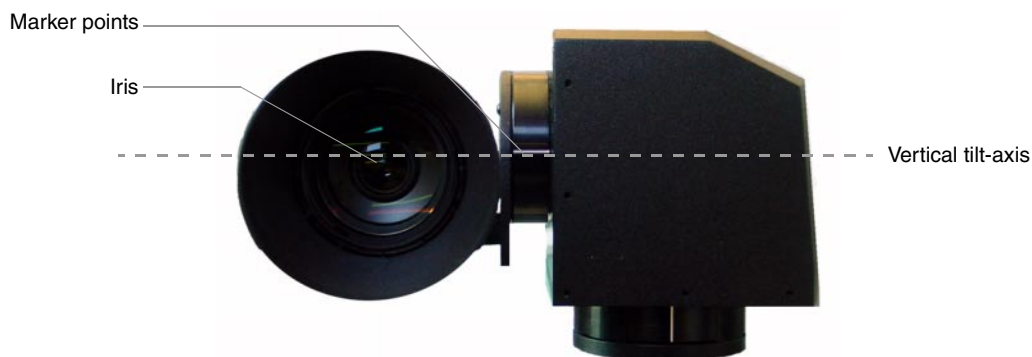

FIG. 9 Iris alignment with vertical tilt-axis
8. Take the entire camera/mount and cradle assembly, and align the lens with the Tilt Hub, so the vertical-axis intersects the center of the camera's iris, as shown in FIG. 9.